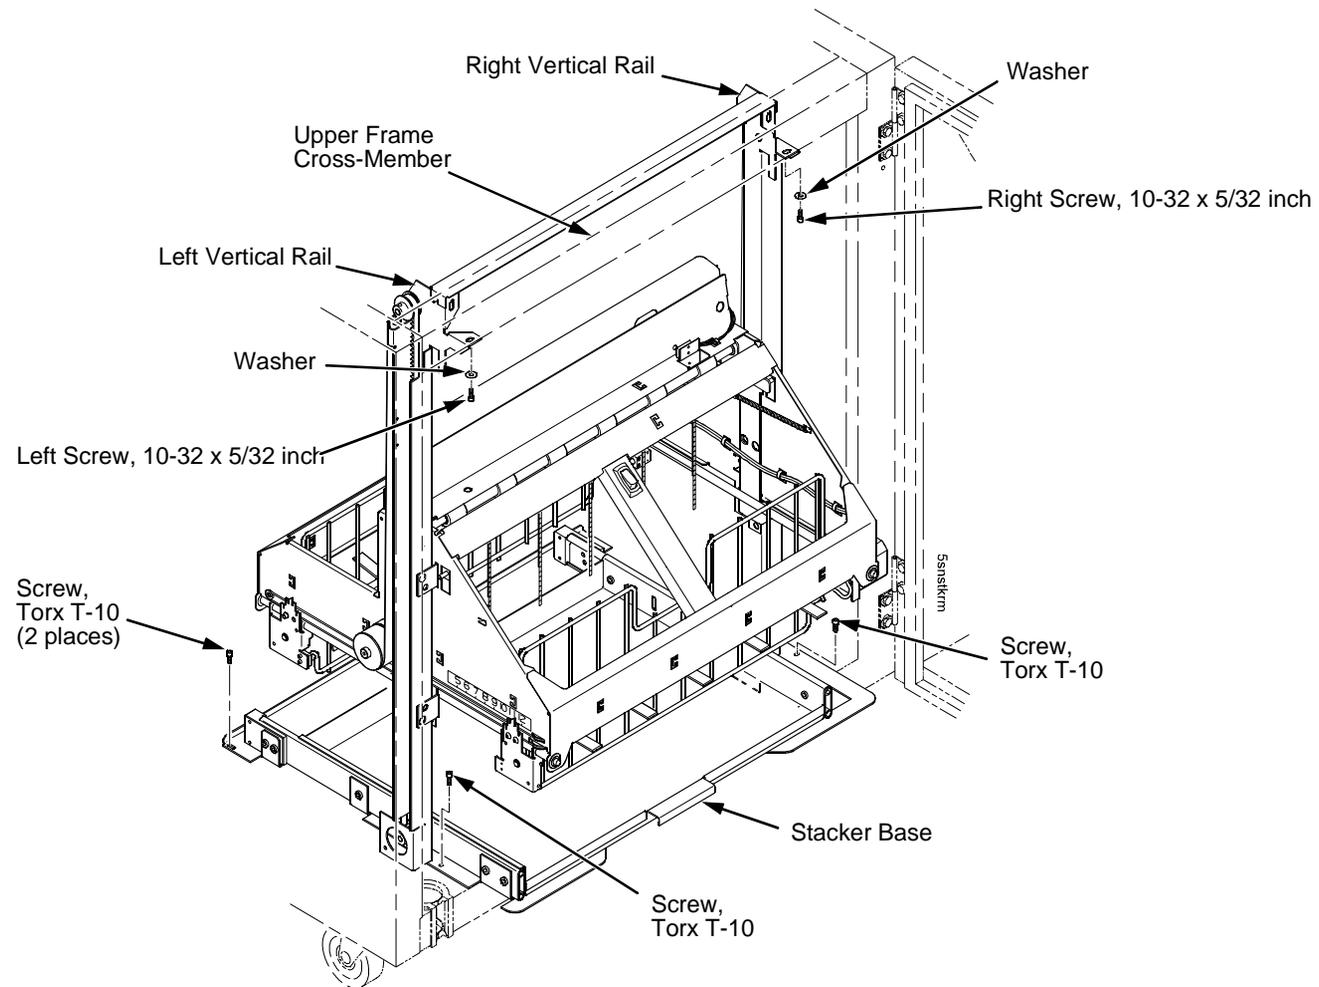

Figure 81. Preparing the Stacker for Removal
8. Remove the two 10-32 x 5/32 inch buttonhead screws and washers securing the vertical rails to the upper frame cross-member at the rear of the cabinet. (Figure 81.)
9. Remove the two Torx T-10 screws securing the stacker base to the cabinet floor. (Figure 81.)
10. Remove the two Torx T-10 screws that secure the rail bracket to the cabinet floor. (Figure 81.)